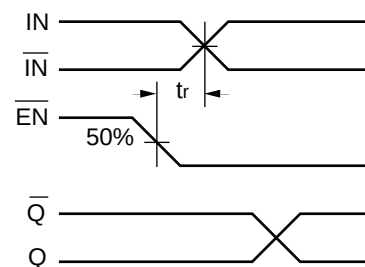

Figure 3. Release Time
- The release time is the minimum time that $\overline{EN}$ must be de-asserted prior to the next IN/ $\overline{IN}$ transition to ensure an output response that meets the specified IN to Q propagation delay and output transition times (see Figure 3).